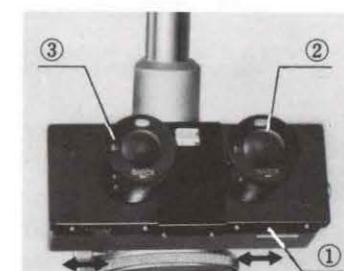

Fig. 7
- (1) Looking through the eyepieces with both eyes, adjust the interpupillary distance, sliding the knurled dovetail slides ① of the right and left eyepiece tubes, until perfect binocular vision is obtained. Then, looking through the right eyepiece with your right eye, focus on the edge of the field of view with the knurled ring ② of the right eyepiece. (Fig. 7)